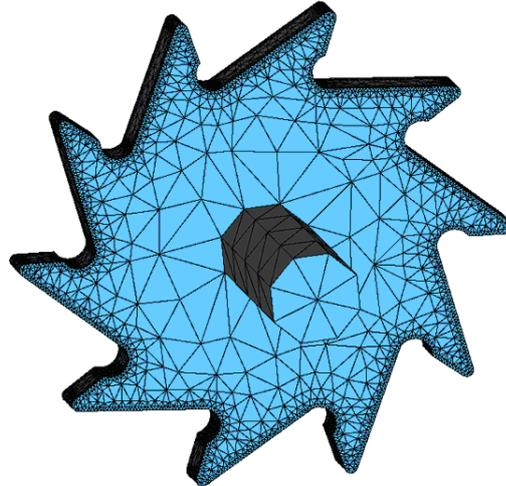

Figure 38. Mesh with assignment of sizes around lines
- 6 . A greater concentration of elements has been achieved around the selected lines. In contrast to the case in previous section, this mesh is more accurate since lines define the profile much better than points do (Figure 38).